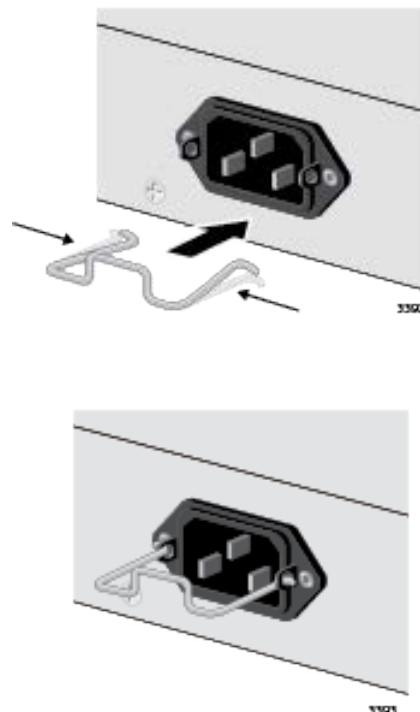

Figure 36. Installing the Power Cord Retaining Clip
1. Install the power cord retaining clip on the AC power connector on the rear panel of the switch, as shown in Figure 36.